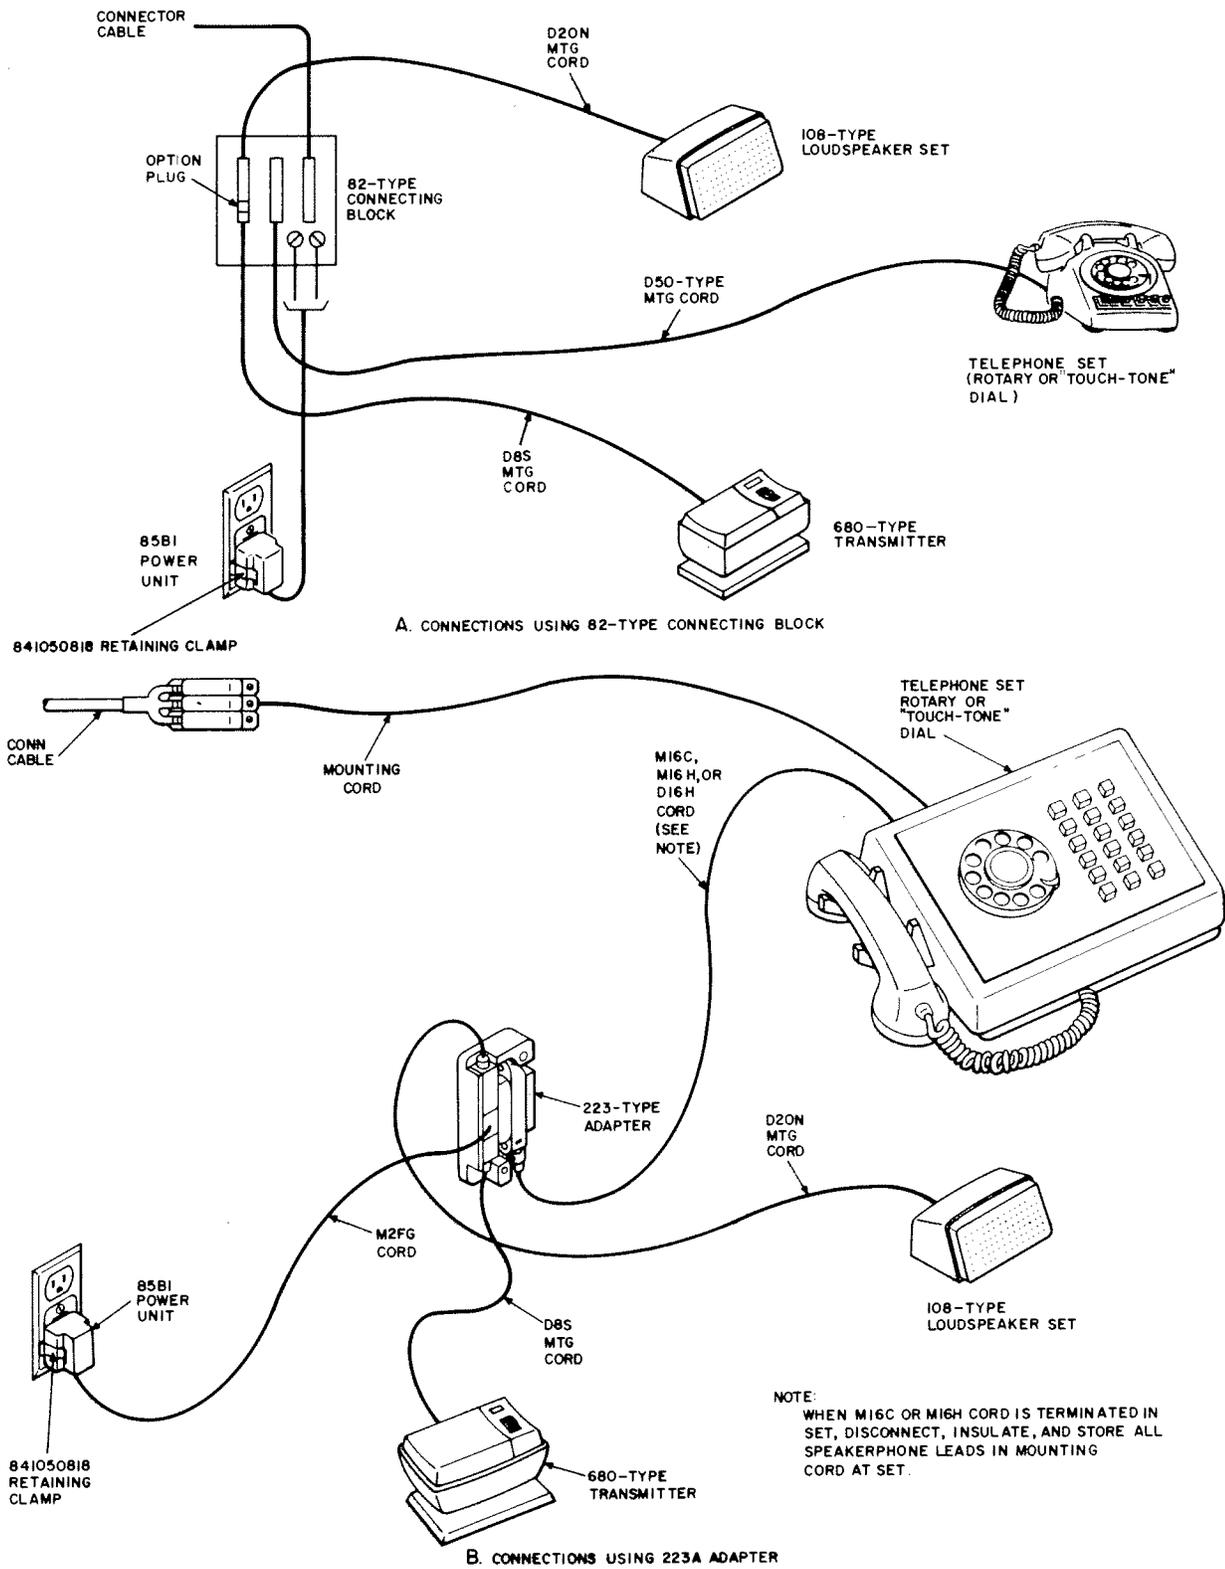

Fig. 1—Typical Arrangements of 4A Speakerphone System
- 2.23 A retaining clamp (841050818) (Fig. 1 and 2) will be shipped with the 85B1 power unit and should be mounted to the ac receptacle to hold power unit securely and to prevent accidental loss of power.